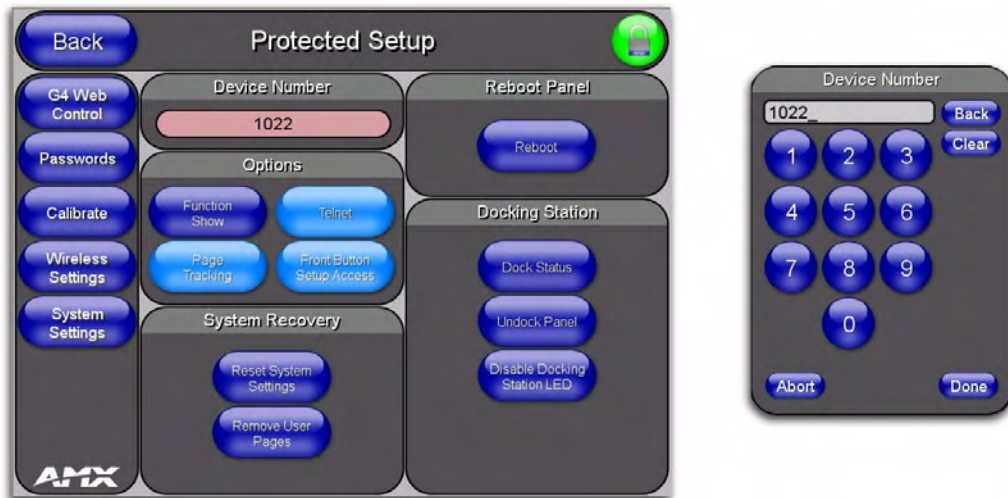

FIG. 14 Protected Setup page
1. Press the *Device Number* field to open the Device Number keypad (FIG. 14).